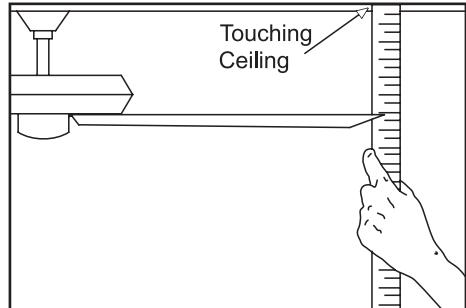

Figure 10
2. Most fan wobble problems are caused when blade levels are unequal. Check this level by selecting a point on the ceiling above the tip of one of the blades. Measure from a point on the center of each blade to the point on the ceiling. Measure this distance as shown in Figure 10. Rotate the fan until the next blade is positioned for measurement. Repeat for each blade. Measurement deviations should be within  $1/8"$ . Run the fan for 10 minutes. If the fan continues to wobble please contact Customer Service and a balancing kit will be sent to you at no charge.